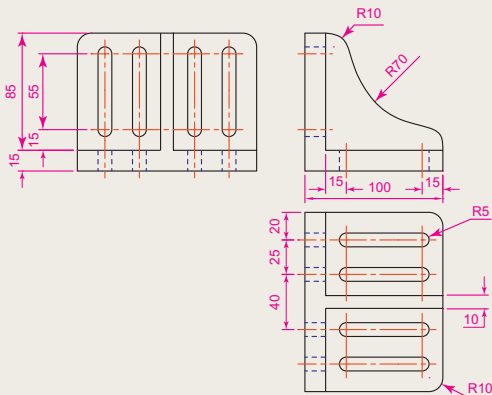

Fig. 7.29 Exercises 6 and 7 – an orthographic projection of the angle plate
6. Construct the orthographic projection given in Fig. 7.29.